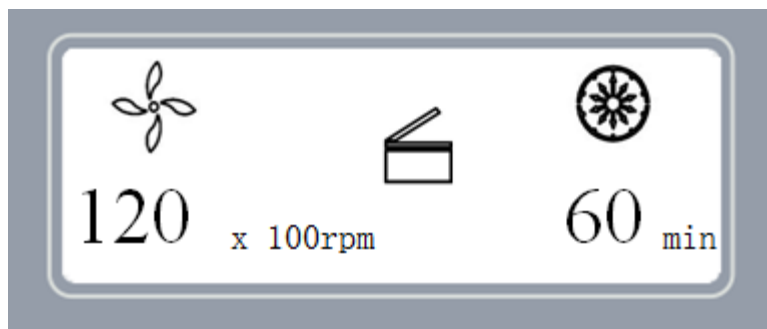

Fig. 6.2 Schematics of main display
- The main display is shown in Fig. 6.2, in which the speed is set at 12,000rpm and time is set to 60 minutes.